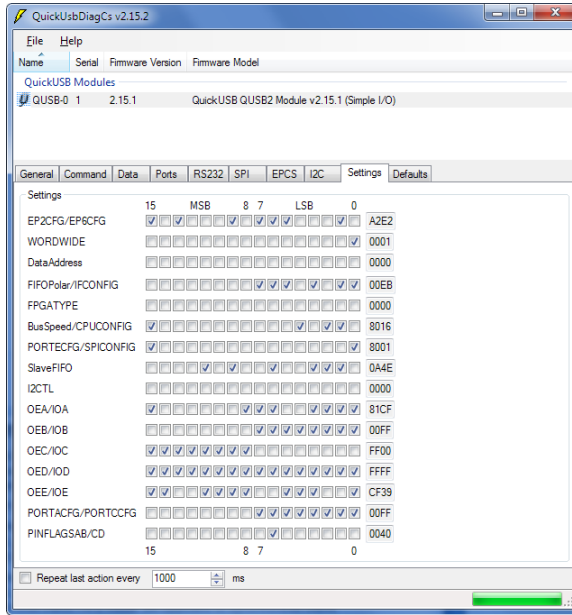

Figure 5 – QuickUSB Diagnostics “Settings” Tab
- b. Under the “FIFOPolar/IFCONFIG” setting, which corresponds to the SETTING\_FIFO\_CONFIG, check bits 0 and 1 (if they are not already checked) to enter Slave FIFO mode (See Figure 5)
- c. Under the “FIFOPolar/IFCONFIG” setting, which corresponds to the SETTING\_FIFO\_CONFIG, ensure that bit 3 is checked to enabled Asynchronous Slave FIFO mode (as opposed to Synchronous Slave FIFO) and that bit 4 is unchecked to use normal IFCLK polarity (See Figure 5)
- a. Reset the endpoint FIFOs by unchecking and checking bit 0 of the “FIFOPolar/IFCONFIG” setting (See Figure 5)